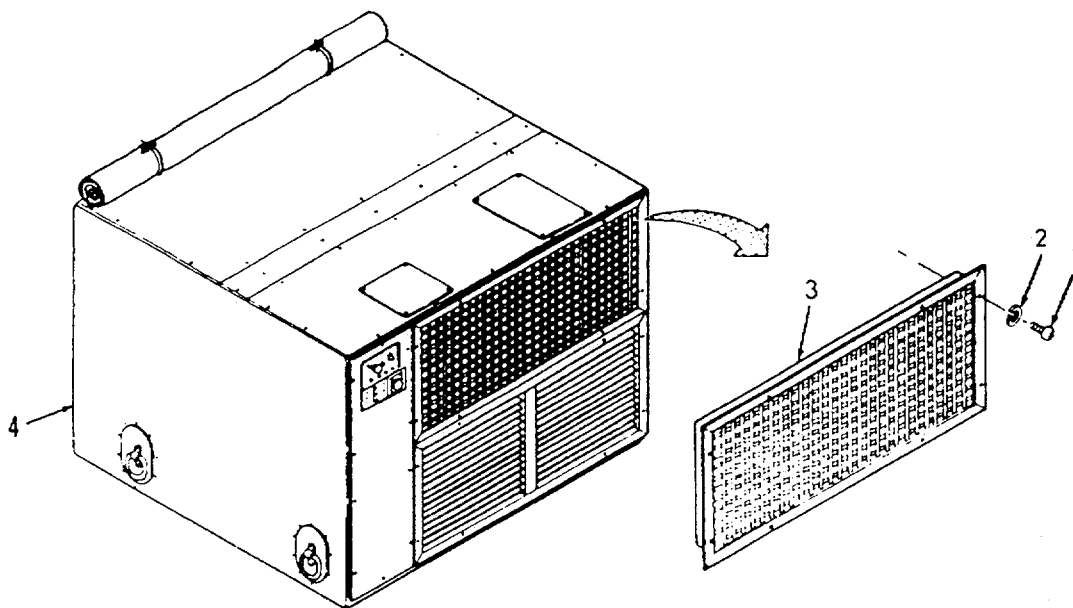

Figure 3-8. Conditioned Air Louver.
**a. Removal** (Refer to Figure 3-8)
- (1) Remove eight screws (1) and eight lock washers (2).
- (2) Remove conditioned air louver (3) from unit (4).